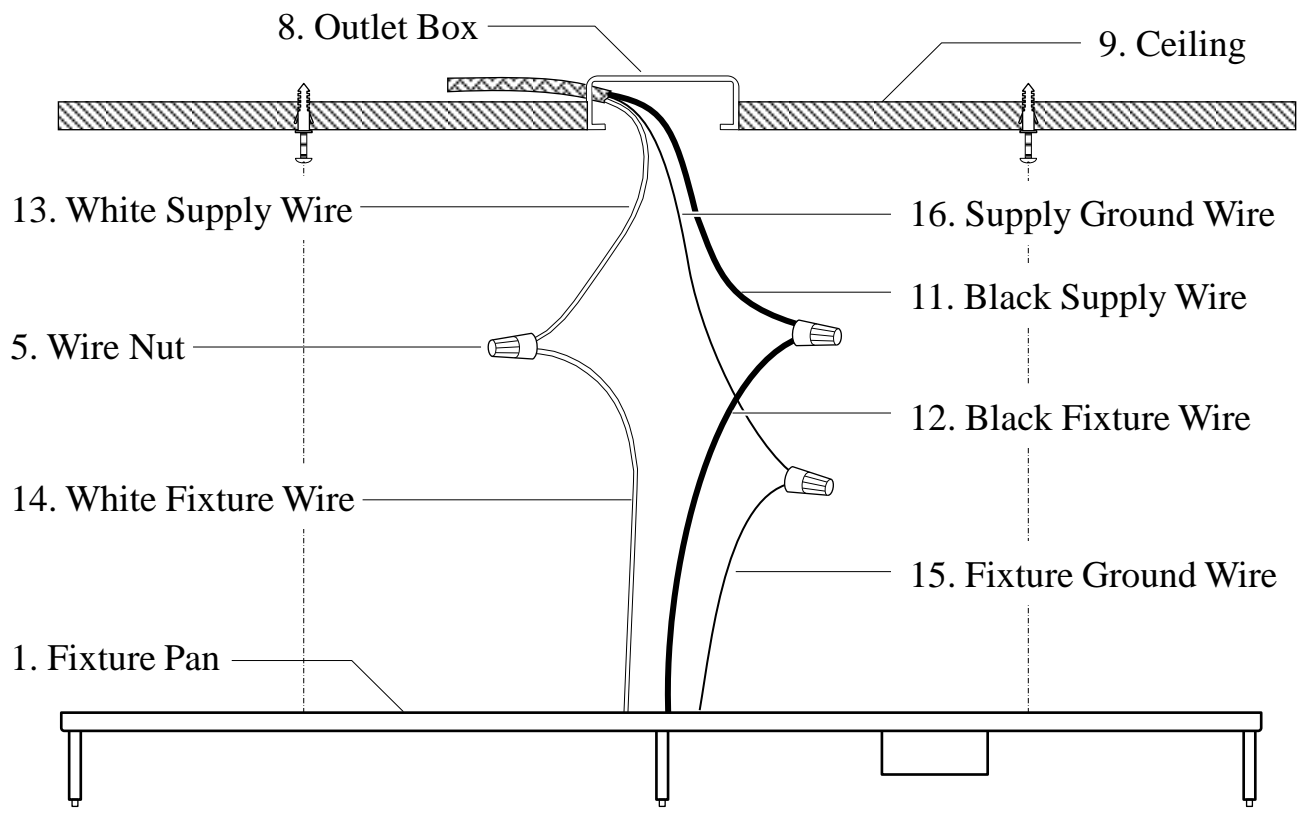

Fig. 2
5. Pull the power supply wires out from the Outlet Box (#8). Attach the Black Supply Wire (#11) to the Black Fixture Wire (#12) and the White Supply Wire (#13) to the White Fixture Wire (#14) using Wire Nuts (#5). Connect the Fixture Ground Wire (#15) and the Supply Ground Wire (#16) together using a Wire Nut (#5). (Fig. 2) Wrap all wire connections with electrical tape for a more secure connection. *Note: If you have electrical questions, consult your local electrical code for approved grounding methods.*